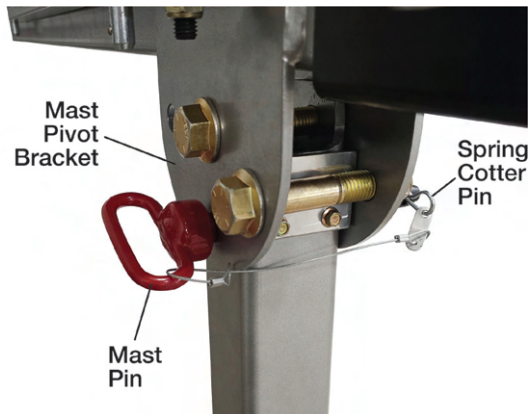

Figure 8-5: Mast Pin Location
4. Inspect the mast pin. Make sure it is in place and the spring cotter pin is installed (see Figure 8-5).